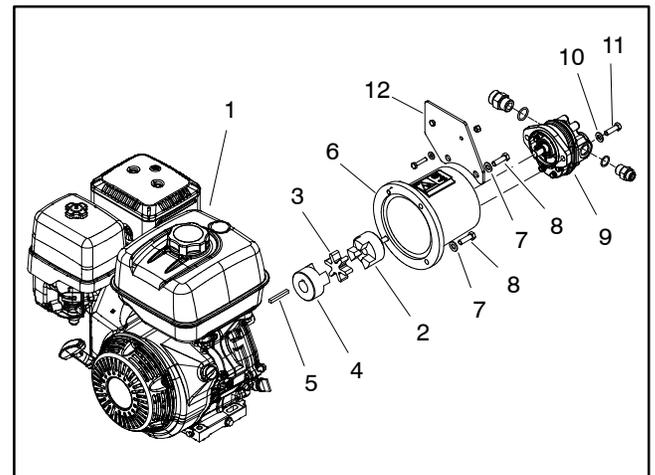

Figure 6
5. Support gear pump to prevent it from moving as engine is removed from machine. Remove two (2) cap screws and flat washers that secure gear pump to flange adapter (Fig. 6).
6. Secure gear pump to flange adapter with two (2) cap screws and flat washers (Fig. 6).